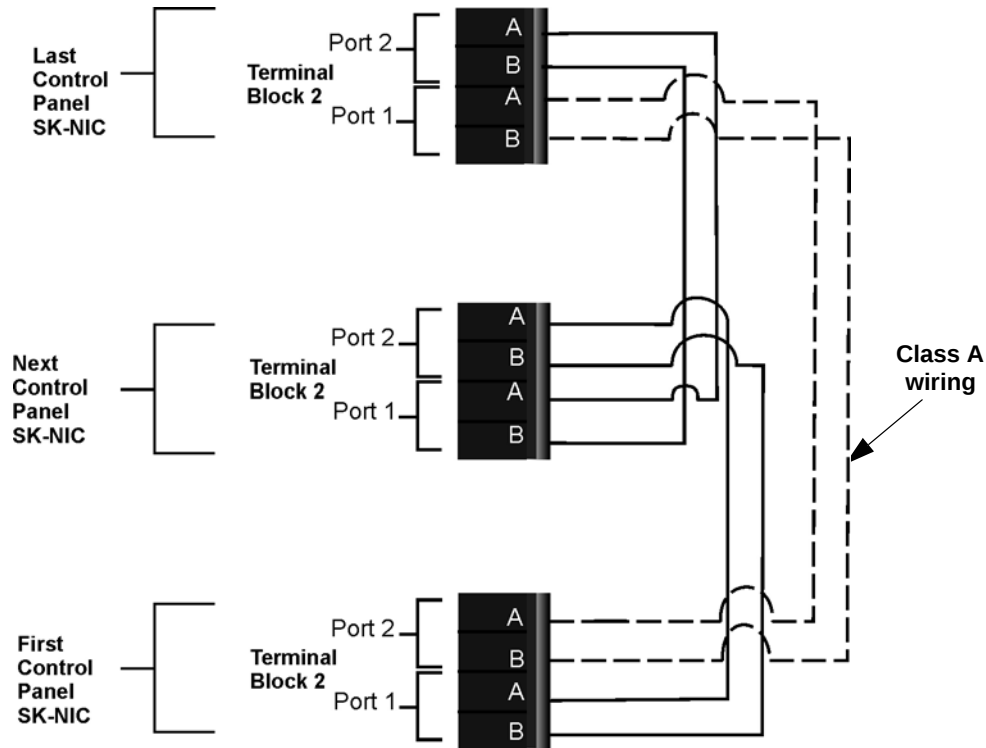

Figure 5.59 Twisted Pair Wiring Configuration
5. Based on the type of data medium chosen, run the twisted pair wiring/fiber optic cable to the next SK-NIC using a class B or class A wiring method. A combination of both medium types can be used. See Figure 5.59, Figure 5.60, Figure 5.61, and Figure 5.62 for SK-NIC wiring examples.
Unshielded twisted pair wiring between multiple panels is shown in Figure 5.59. Class A wiring is shown with a dotted line.